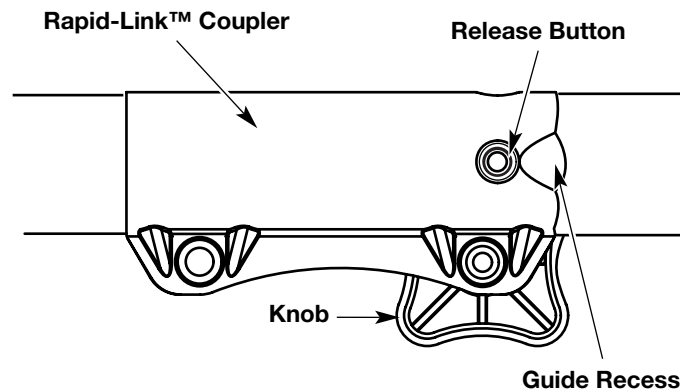

Fig. 15
1. Turn the knob counterclockwise to loosen (Fig. 15).
2. Press and hold the release button (Fig. 15).
1. Turn knob counterclockwise to loosen (Fig. 15).
**NOTE:** Aligning the release button with the guide recess will help installation (Fig. 15).